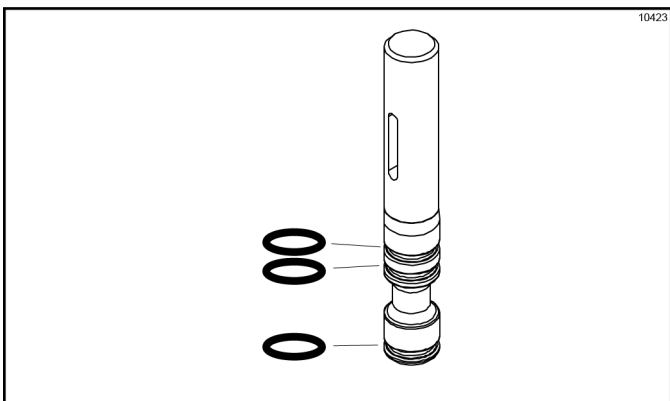

Figure 6-10
3. Slide the three O-rings into the grooves on the draw valve and lubricate. (See Figure 6-10.)